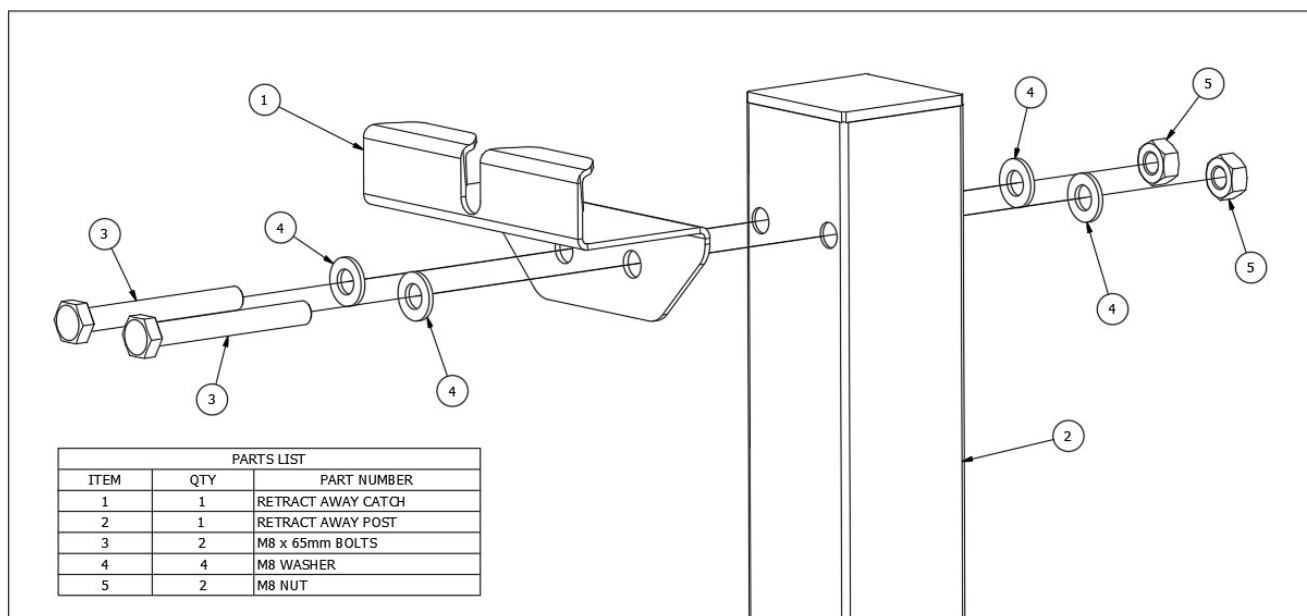

Fig 4. Catch installation to Post.
- Fit the Catch (item 1 - below) as shown in Fig 4.